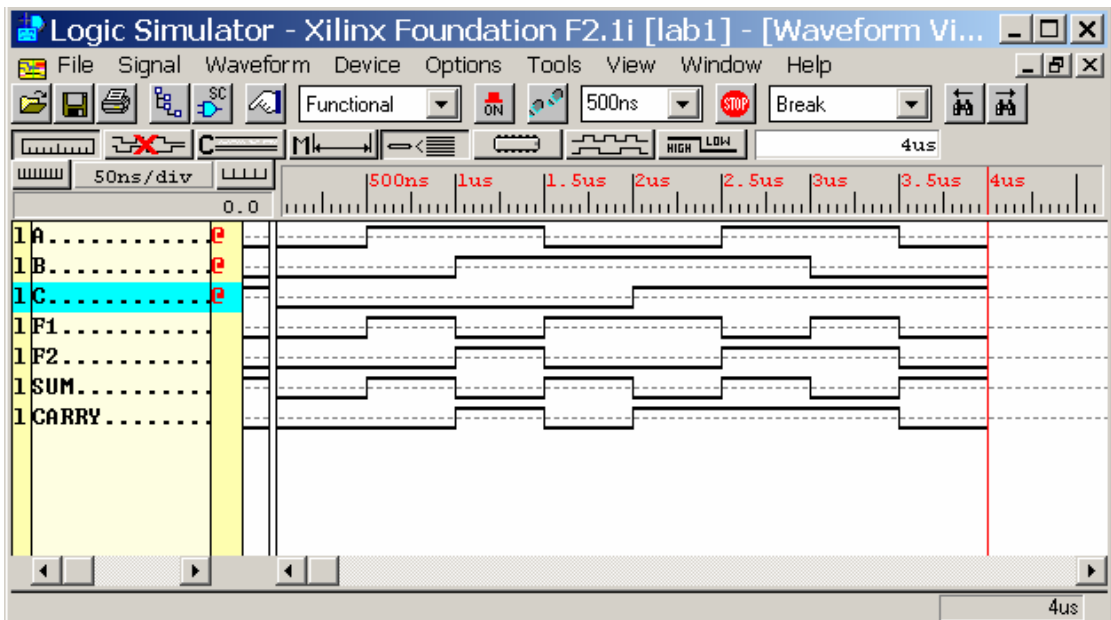

Figure 2.2: Simulation
- Simulate the design in steps as shown in Figure 2.2